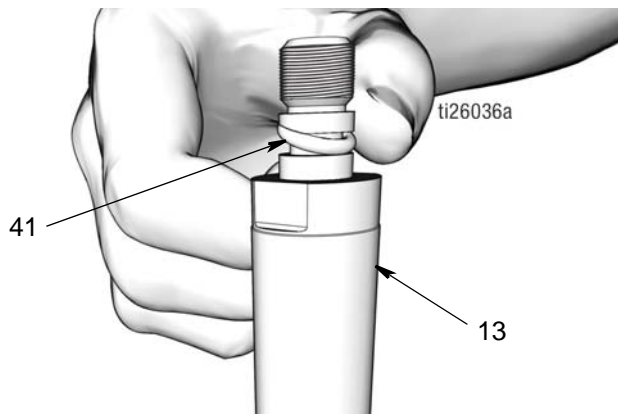

FIG. 47
- Use a clean cloth to wipe down the piston rod (13) and piston (6) and remove any dirt or contaminants. Inspect surfaces for any scratches or damage. Replace damaged parts.
- Apply a thin layer of grease to o-ring (41). Install o-ring over the grooves of the piston rod (13) (FIG. 47).